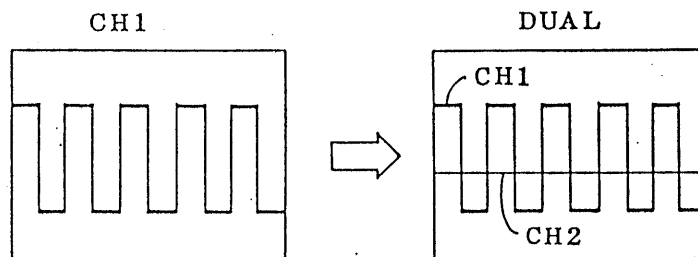

Figure 6-2
- 1) Change the VERT MODE switch (14) to the DUAL position so that the other trace (CH2) also is displayed. (The trace explained in the preceding section was for CH1.) At this stage of procedure, the CH1 trace has the square wave of the calibration signal and the CH2 trace has a straight line since no signal is applied to this channel yet. See Figure 6-2.